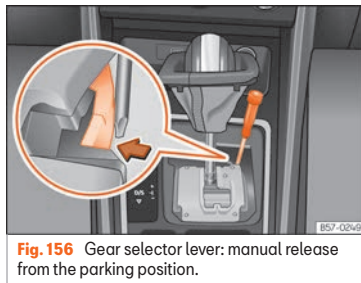

Fig. 156 Gear selector lever: manual release from the parking position.
- Using the flat part of a screwdriver, press the yellow tab sideways and keep it pressed down **Fig. 156**.